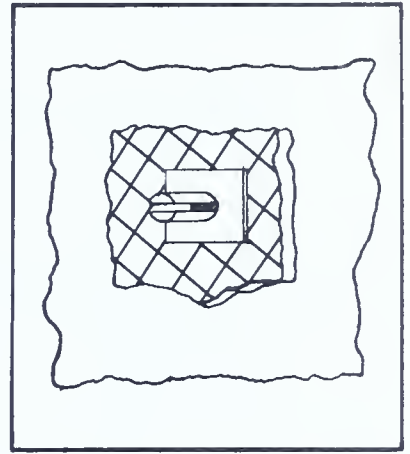

FIG. 68 — *Insulation Pin, Wire, Insulation, and Special Clip*
6. Place an insulation clip in the jaws of the pliers and bend the edge of the clip down, thus making it easy to hold. Clip over the pin. See Fig. 68.